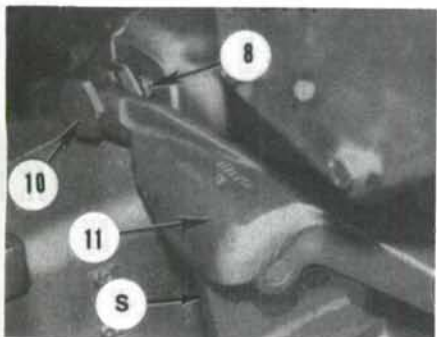

Fig. 220—Differential lock pedal arm (11) should just contact stop (S) when differential lock is disengaged. Refer to text for adjustment.
**180. ADJUSTMENT.** The differential lock pedal arm (11—Fig. 220) should be against stop (S) when differential lock is disengaged. To adjust, loosen locknut (8) and turn clevis (10) until pedal arm